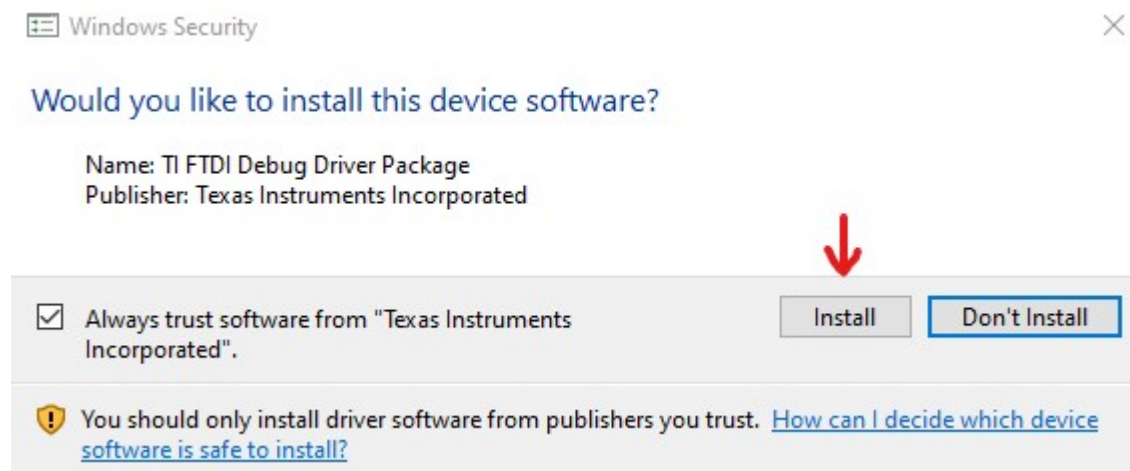

Figure 3-1. Installation pop up window
- During GUI application installation a pop up window will appear as shown in the Figure 3-1. Click on 'Install' to install the USB driver required for the DRV8434AEVM operation.